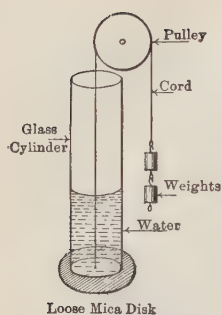

FIGURE 43.—The greater the depth of water, the more weights must be added to hold a disk against the bottom.
**33. Factors Determining Gravity Pressure.**—A cubic foot of water weighs 62.5 pounds, no matter what the shape of the vessel in which it is weighed. The pull of gravity on all the particles results in the downward force on the bottom of the containing vessel. If a cubic foot of water is poured into a narrow cylinder (Figure 43), such as a vertical pipe, the pressure per square inch on the bottom will be greater than if the water is put in a shallow pan.